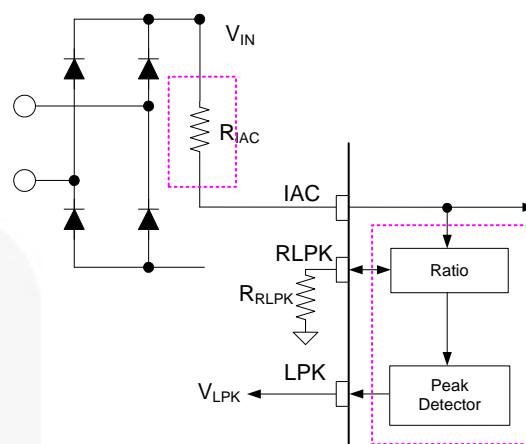

Figure 29. Relationship of $V_{IN.PK}$ to V_{LPK}
The relationship of $V_{IN.PK}$ to V_{LPK} is shown in Figure 29. The peak detection circuit recognizes the V_{IN} information from I_{AC} . R_{LPK} sets the ratio of V_{IN} to V_{LPK} via a resistor R_{RLPK} as described in Equation (8). The target value of V_{LPK} is one percent (1%) of $V_{IN.PK}$. The maximum V_{LPK} cannot exceed 3.8 V when system operation is at maximum AC input.